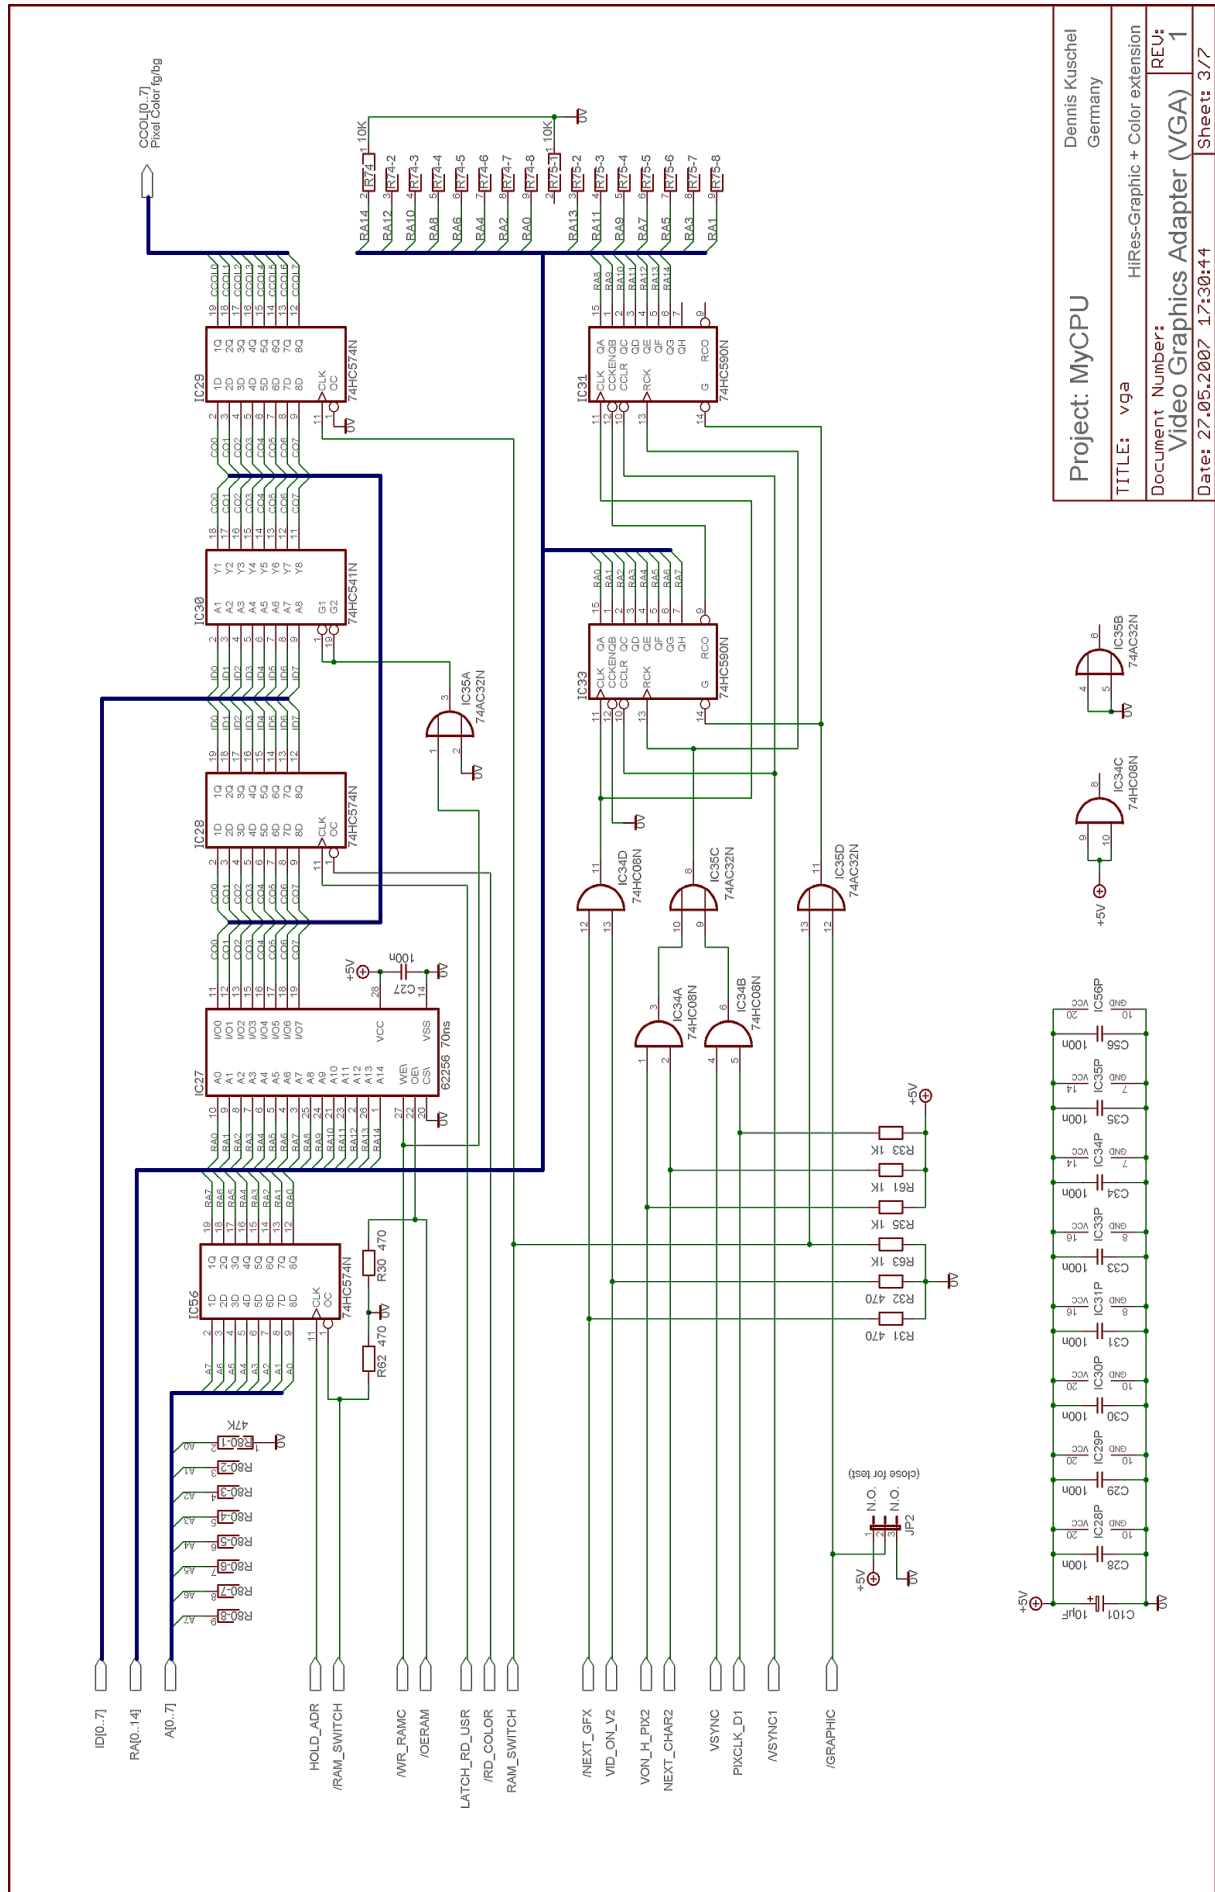

Fig. 39: Color Memory and Graphic Address Counter
- Fig. 39 on Page 45: Color Memory and Graphic Address Counter